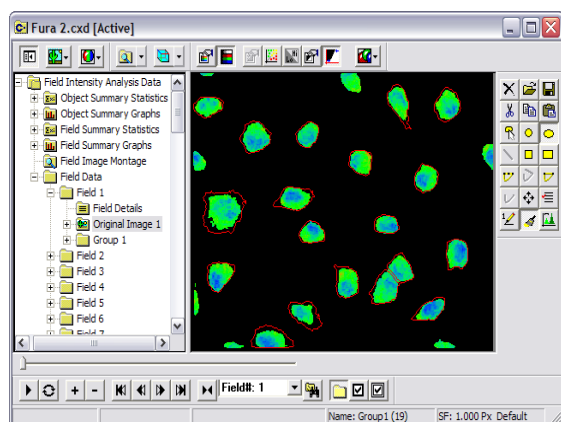

fig.3
5. Adjust min/max contrast levels for best image display (fig.3)